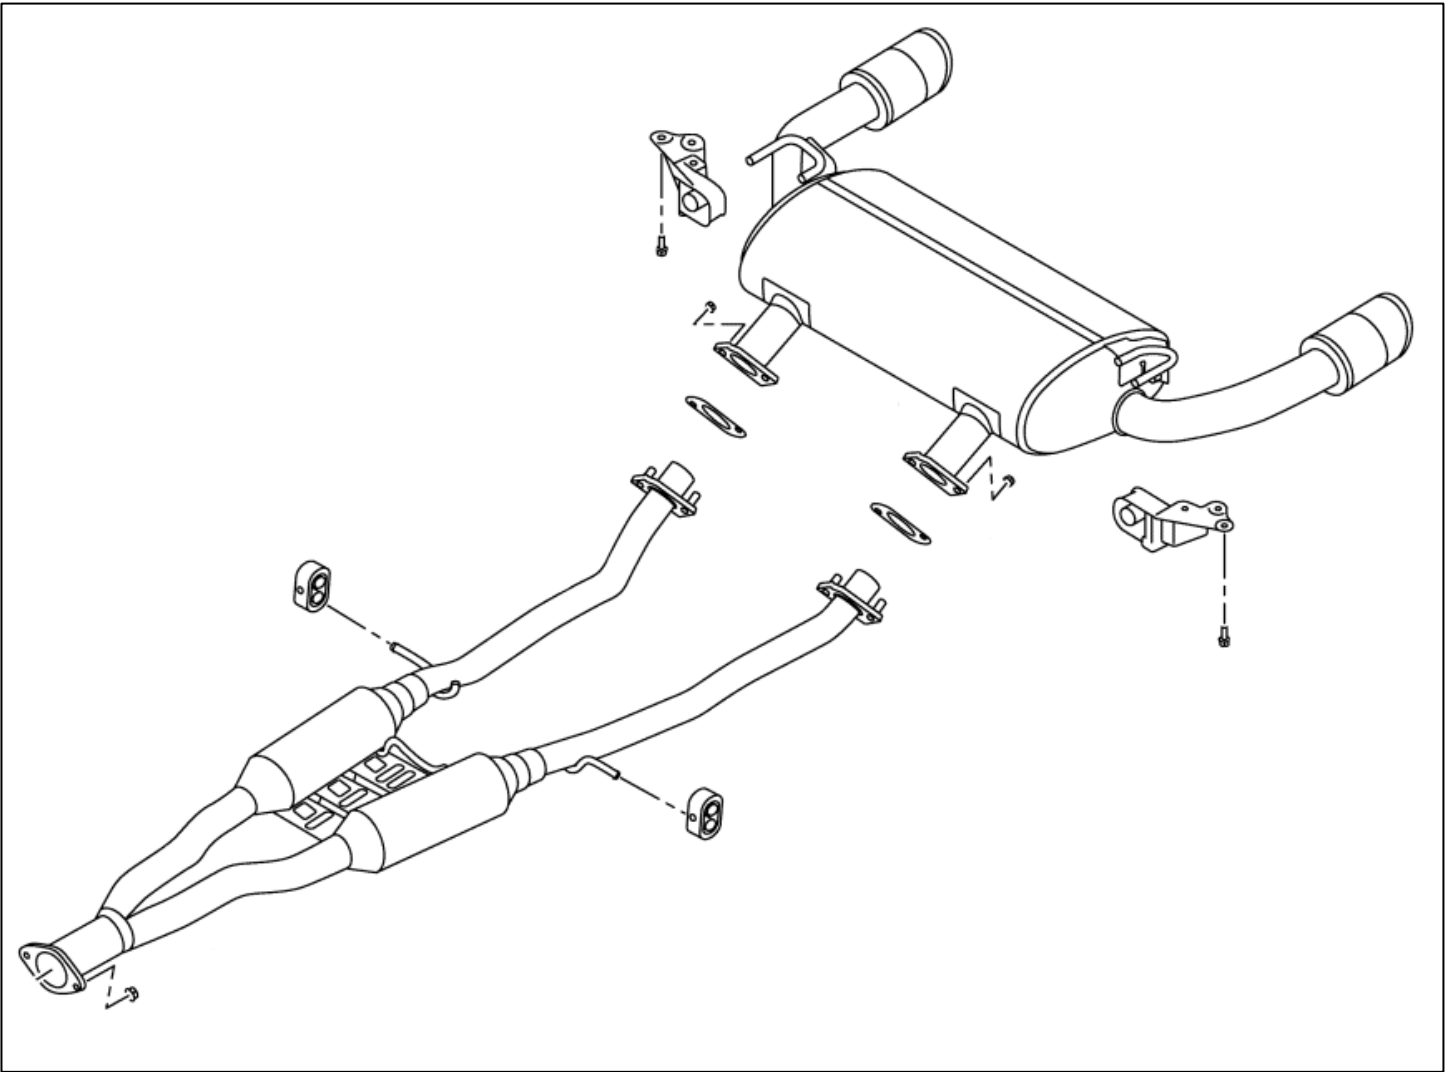

Figure 1
3. Remove the OE Catback Exhaust System. If you are replacing the Y-Pipe, do this at this point as well. Use a Rust Penetrant on all exhaust hardware to help easily remove hardware. *Figure 1.*